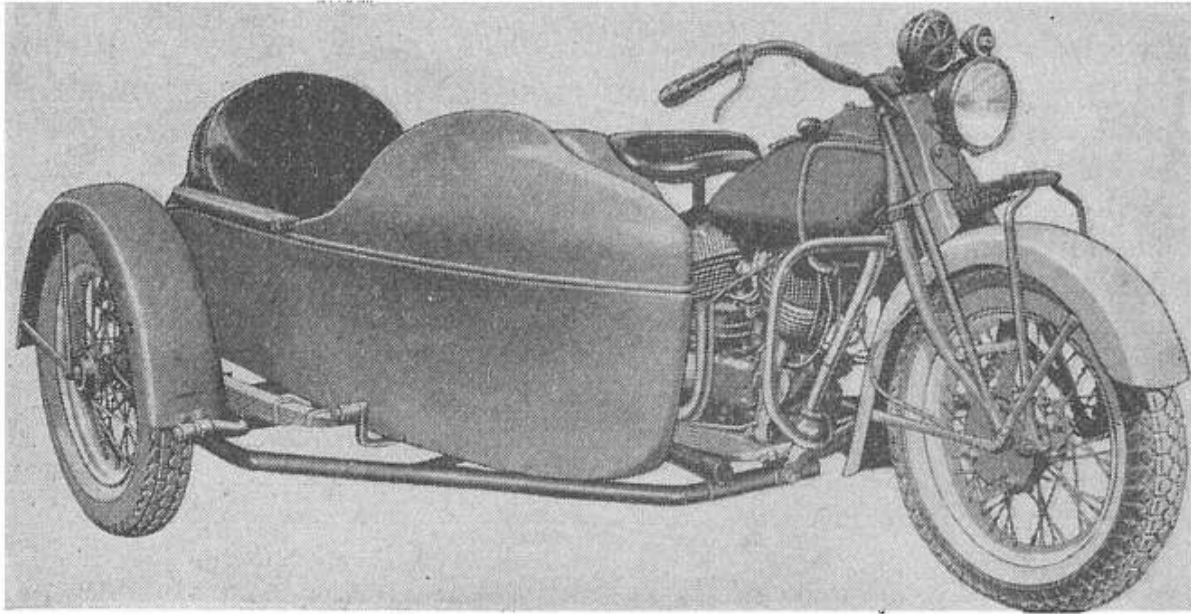
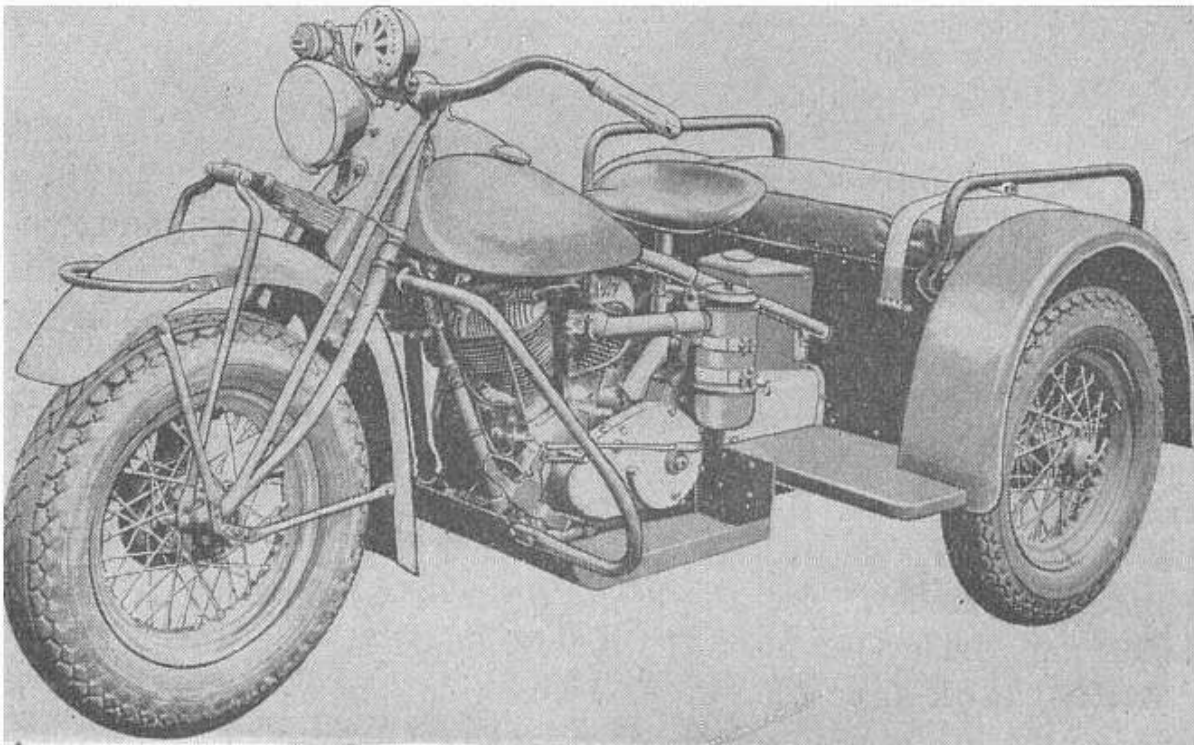

FIGURE 2.—Motorcycle with side car (chassis type—3 x 1).
FIGURE 3.—Motor tricycle (chassis type—3 x 2).
e. There are two variations of the motorcycle still in service: motorcycle with side car (fig. 2); and motor tricycle (fig. 3).